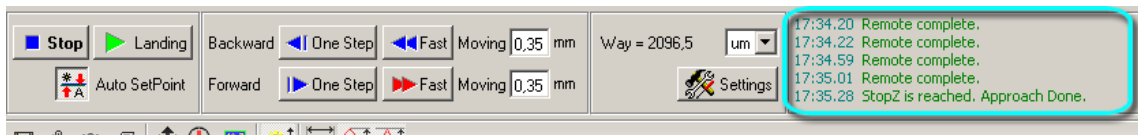

Fig. 1-9
- The message "**...Approach Done.**" will appear in the journal (Fig. 1-9).